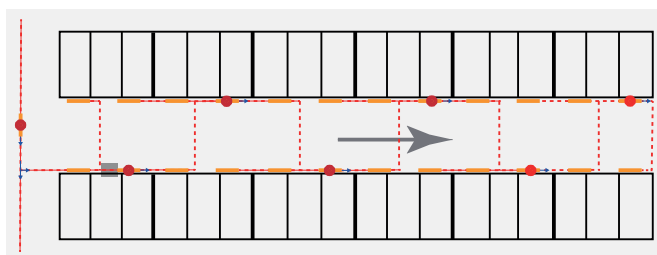

Figure 3:
With the HFSB/X system used here, the parking areas are only illuminated when someone is present and also only in a limited field. Switching is carried out fully automatically in the course of the driveway. The illuminated field extends around the motion-detecting sensor to the next sensor in both directions of the luminaire row (leading light). The travel paths can be switched as an overall group if required (see figures 3 and
- If necessary, "all" can be set for switching the entire system with a switch-off delay of 2 minutes for the luminaires of the crossways and the entry/exit (see also figure 3).
The two inner rows of luminaires in the entrance and exit area are wired as a coherent arrangement like a parking bay aisle (see figure 3). The outer row of luminaires (far right, framed in dashed lines) forms a separate arrangement.